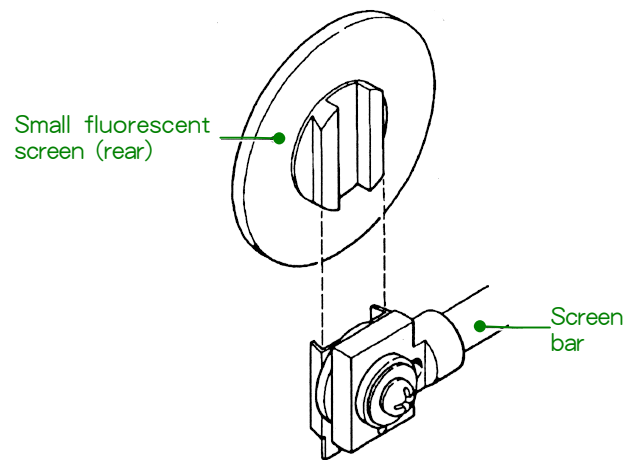

Fig. 6.15 Replacing the small fluorescent screen
3. While holding the small fluorescent screen bar with one hand, carefully remove the screen with the other (Fig. 6.15).